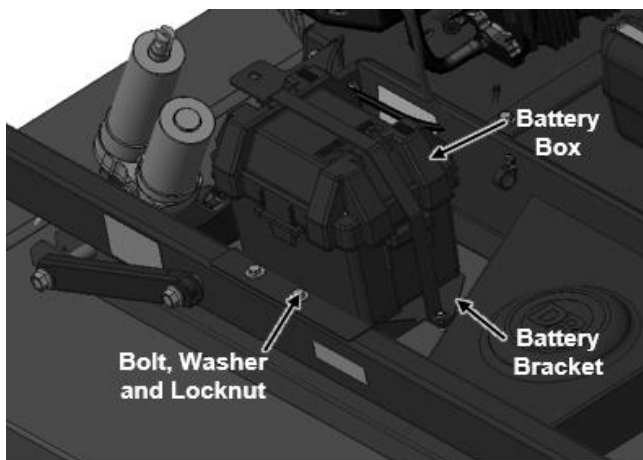

Figure 5
1. Install Battery Bracket with Battery Box onto Frame to Right Side Support Wheel Bracket (**Figure 5**).
2. Secure Battery Bracket to Frame with two 5/16-18 X 3.75 in Flanged Bolts PN 187571, two Washers PN: 112411, and two Flanged Locknuts PN: 333321 (**Figure 5**).